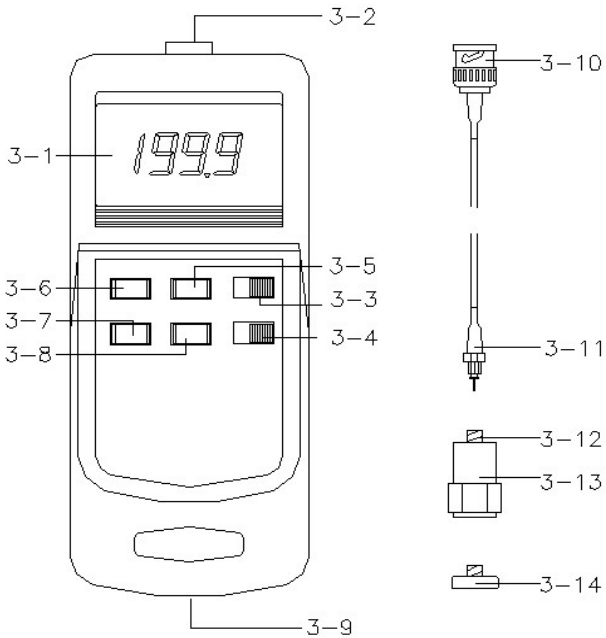
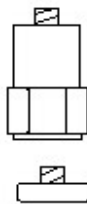
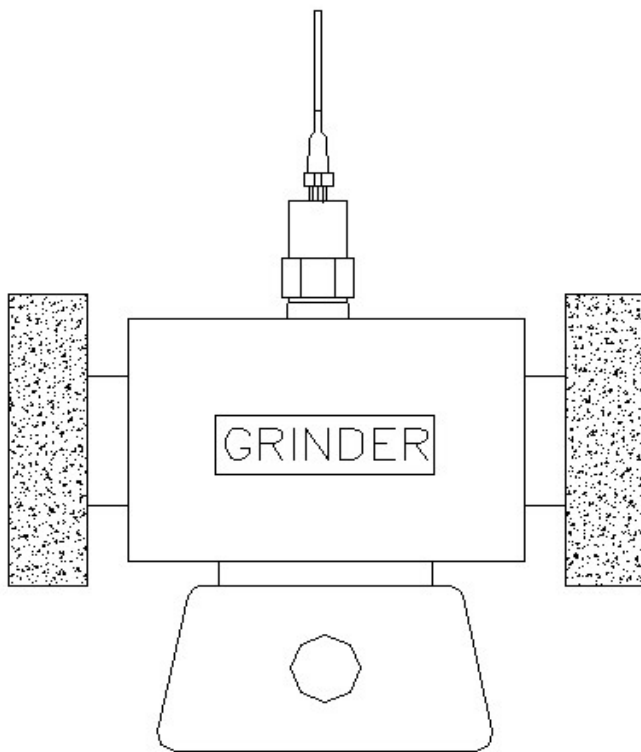

Fig. 1
Fig. 3
Fig. 4
- 1) Plug in the " BNC plug of cable " ( 3-10, Fig. 1 ) to the " BNC socket of meter " ( 3-2, Fig. 1 ).
- 2) Plug in the " Mini plug of cable " ( 3-11, Fig. 1 ) to the " Input socket of vibration sensor " ( 3-12, Fig. 1 ).
- 3) For the acceleration measurement, select the " Acceleration/Velocity switch " ( 3-4, Fig. 1 ) to the " ACC. " position.
For the velocity measurement, select the " Acceleration/Velocity switch " ( 3-4, Fig. 1 ) to the " VEL. " position.
- 4) Select the " RMS/PEAK switch " ( 3-3, Fig. 1 ) to the " RMS " position.
- 5) Power on the meter by pushing the " Power button " ( 3-6, Fig. 1 ) once.
7) If the surface material of measuring article is the ferrous material, connect " Vibration sensor " ( 3-13, Fig. 1 ) with the " Magnetic base " ( 3-14, Fig. 1 ), refer to Fig. 3, page 6. Put the whole unit ( Vibration sensor & Magnetic base ) to the surface of measuring article, refer to Fig. 4, page 7
Before the measurement if select the " RMS/PEAK switch " ( 3-3, Fig. 1 ) to the " PEAK " position.
During the measurement, push the " Data Hold button " ( 3-5, Fig. 1 ) will hold the measured value & the LCD will indicate " D.H." symbol.
\* The DATA RECORD function displays the maximum, minimum and average readings. To start the DATA RECORD function, press the " RECORD Button " ( 3-7, Fig. 1 ) once. " REC " symbol will appear on the LCD display.
(a) Push the " RECALL button " ( 3-8, Fig. 1 ) once, the " Max " symbol along with the maximum value will appear on the display.
**During the measurement, push the " Record Button " ( 3-7, Fig. 1 ) to execute the memory record function.**
- 2) Loose the screw from the battery cover, then open the " Battery Cover " ( 3-9, Fig. 1 ) away from the instrument and remove the battery.